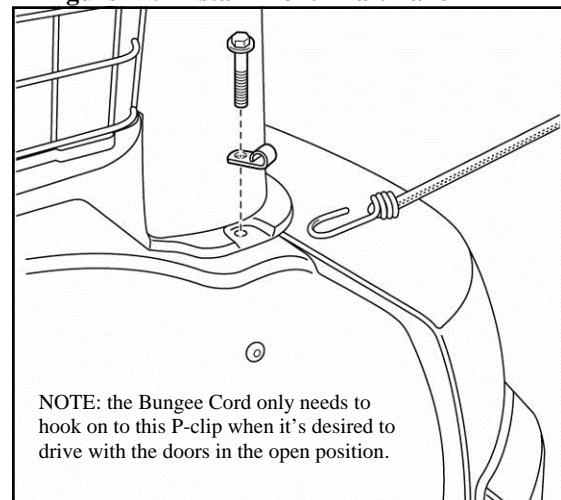

Figure 14: Install P-clip for Bungee Cord
- 3.5. Install 1/2" P-clips behind seat back mount. Remove the 10mm bolt and re-insert through the P-clip hole as shown (Figure 14). **NOTE: When driving with the doors open, the open hook end of the Bungee Cord must be secured to the vehicle by looping it through this P-clip as illustrated.**